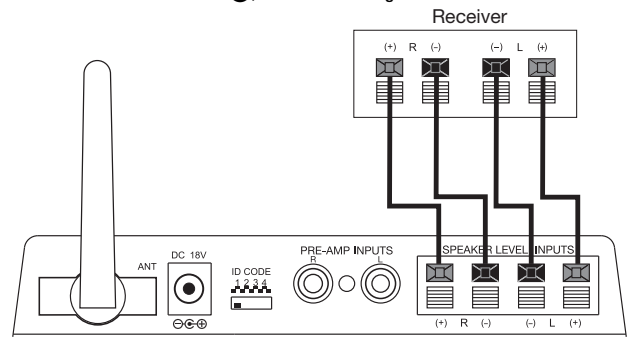

Figure 3.
Connect the speaker wire to the receiver’s speaker outputs and the inputs on the transmitter module ④, as shown in Figure 3.